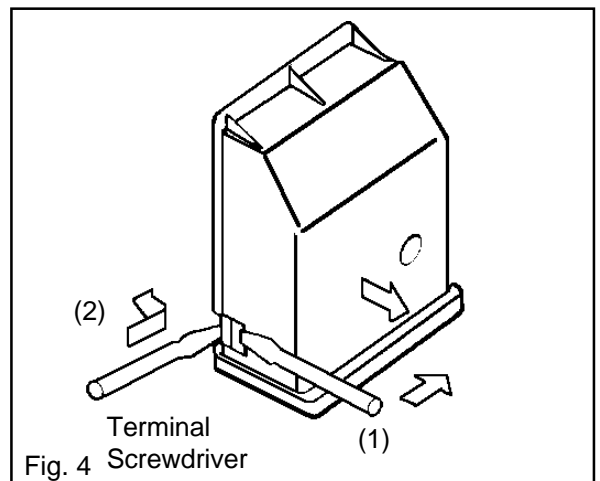

Fig. 4
- Prise cover loose using screwdriver in position (1) then lever off with screwdriver in position (2) at either side. See Fig. 4.